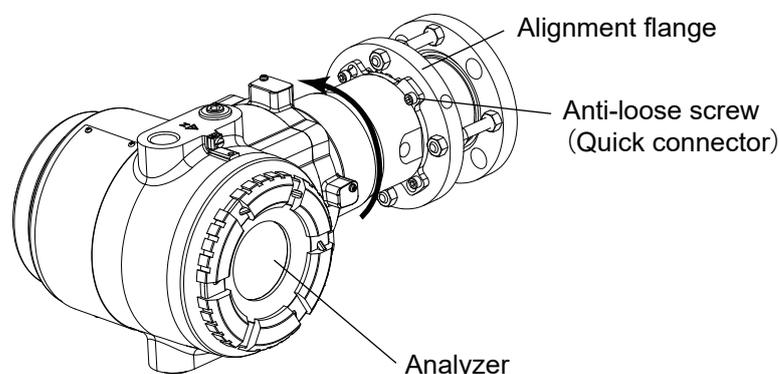

Figure 2.29 Separation the analyzer and the alignment flange
- (1) Before attaching the alignment flange to the process flange, loosen the quick connector screws to separate the analyzer from the alignment flange. First, loosen the anti-loose screw shown in Figure 2.29.
- (2) Loosen the remaining 3 screws (M6) on the flange. Do not completely remove the three screws from the flange at this time.
- (3) Rotate the analyzer counterclockwise and remove the analyzer from the alignment flange. Follow the same procedure to separate the reflector from the reflector flange.